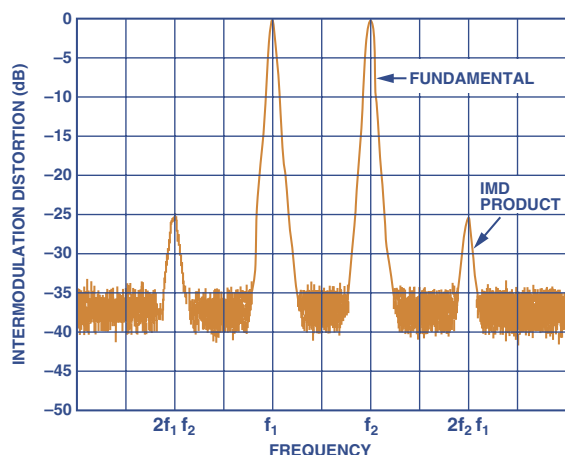
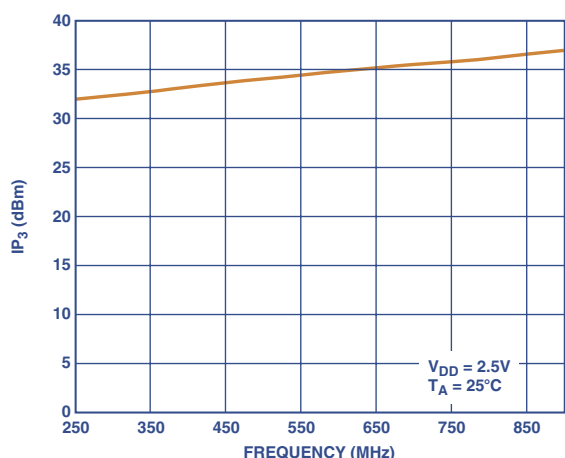

Figure 10. Output spectrum of two-tone IMD test.
Figure 11. IP3 vs. frequency.
**A:** When tones at closely spaced frequencies are passed through a switch, the nonlinearity of the switch causes false tones to be generated, causing undesired outputs at other frequencies. In communications systems, where channels are becoming more tightly spaced, it is essential to minimize this *intermodulation distortion* (IMD) to ensure minimum interference. Applying two closely spaced equal-power signals with a set frequency spacing (e.g., 900 MHz and 901 MHz) to the input of a device under test (DUT), results in the output spectrum shown in Figure 10. The 3rd-order harmonic, usually expressed in dBc, is the log of the ratio of the power in the 3rd order harmonic to the power of the fundamental. The larger the (negative) value, the lower the distortion. Sending these tones through the ADG918, using a combiner with an input power of 4 dBm, resulted in an IP3 of 35 dBm as shown in Figure 11. [Note: an excellent discussion of various types of distortion can be found in “Ask The Applications Engineer—13”]1